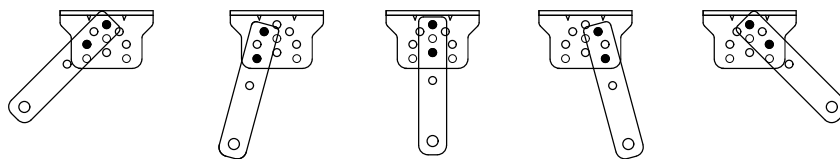

Figure 5
b) The connecting bracket and wall bracket can be connected according to different conditions, please refer to figure 5.